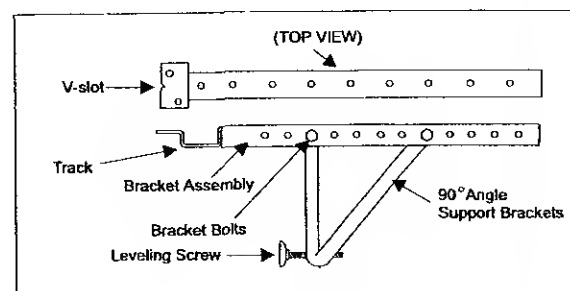
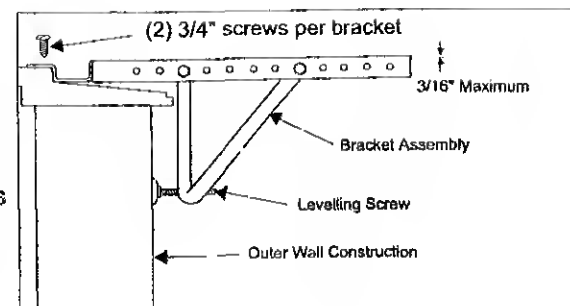
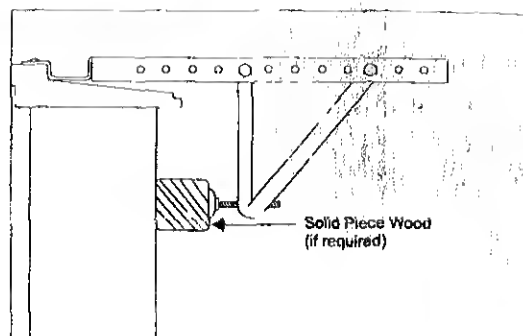

Fig 8
Fig 9
Fig 10
A Attach the **bracket assembly to 90° angle support brackets** (Fig 8) using (2) 1 1/2" bolts (provided) per bracket. Secure with the (2) 1/4" lock washers and (2) 1/4" nuts. **DO NOT** immediately tighten these bolts as it may be necessary to adjust the depth of the **bracket assembly**, depending on the depth of your window sill, see (Fig 9). Install the two **levelling screws** into the 90° support brackets. Test the bracket assembly in the window before cabinet installation. If the levelling screws are distanced too far away from the wall to provide stability, it may be necessary for you to shim this area with a solid piece of wood. See (Fig 10)
If additional support to the bracket assembly is required, use a solid piece of wood to provide stability. This will be required when sills are extra deep See (Fig. 10).